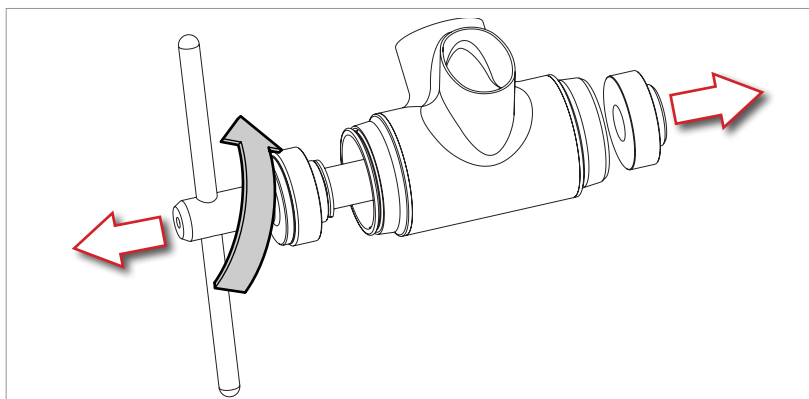

Fig.4
- Turn the lever of tool UT-BB240 anticlockwise to unscrew the left hand bottom bracket cup completely, then remove the screw (Fig. 4).